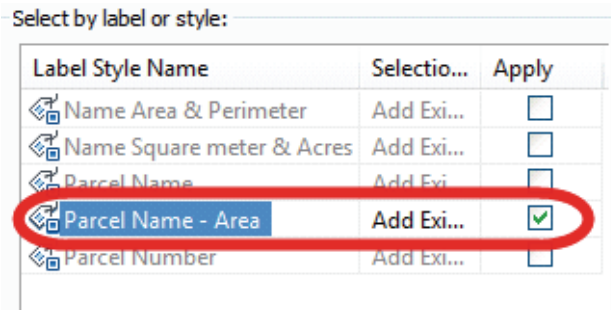

Figure 2–57
- Select a location to insert the table into the drawing, as shown in Figure 2–58.